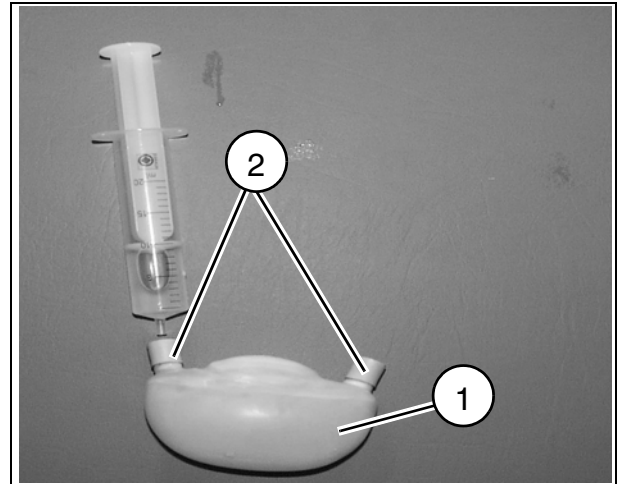

Fig. 13
- Fill the water bladder with water (approx. 100 - 120 ml, i.e. 5 - 6 syringes, each 20 ml) (1/Fig. 13):
2. Insert the syringe needle through one of the valves (2/Fig. 13) and empty the syringe contents in the water bladder. The valve has a self-closing membrane.